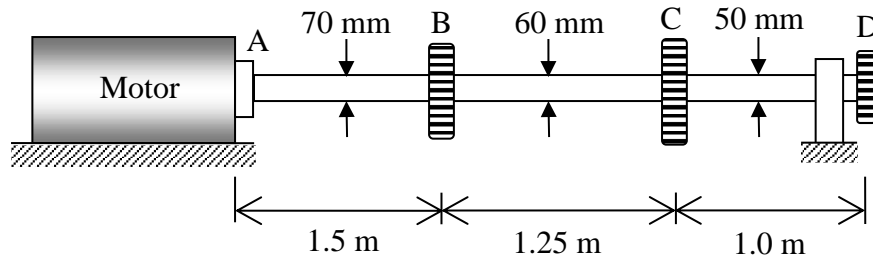

Figure 7
- (b). When an electrical motor as shown in **Figure 7** operates, it transmits P kW to the shaft at f Hz. The gears at B, C and D drive a machinery requiring power equal to $P/2$ kW, $P/3$ kW and $P/6$ kW, respectively. Calculate the maximum shearing stress in the shaft and the angle of twist between the motor at A and gear at D if each shaft is hollow with 7.5 mm thick. Use shear modulus of 80 GPa. The values of P and f are given in **Table 1**.